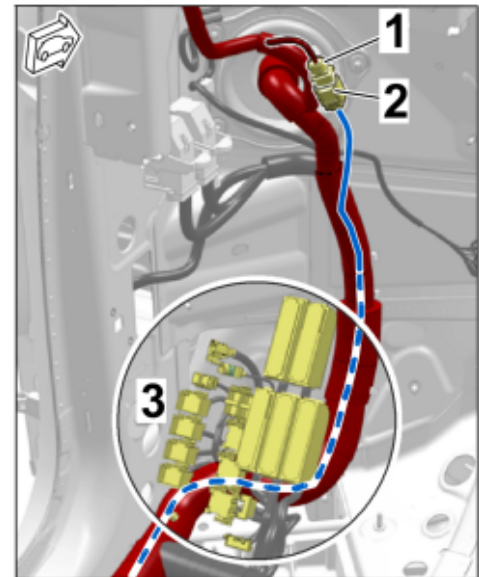

Figure 23
3.2.1 A-pillar area, left (⇒ Figure 23)